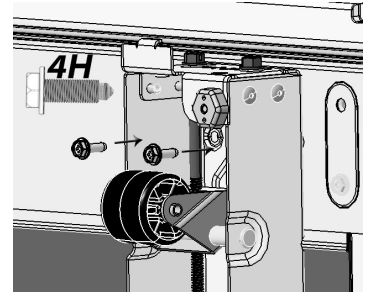

Fig. 5
- c. Using the 4H bolts from step 1, fasten the front of the Leveler Assembly to the refrigerator/freezer using a $\frac{5}{16}$ " nut driver (Fig. 5).